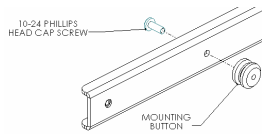
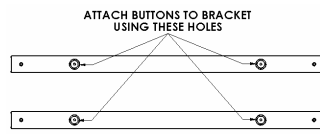

Figure 2
Figure 3
1. Using a 10-24 phillips head cap screw inserted from back side of bracket, secure mounting button, with chamfered hole of mounting button (larger surface) facing bracket, to top and bottom brackets (four places) (see Figure 2 & Figure 3).